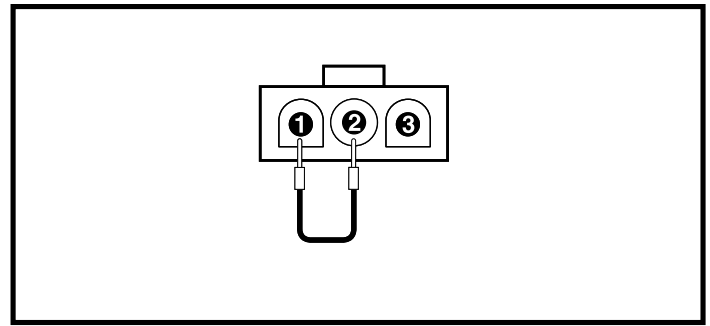
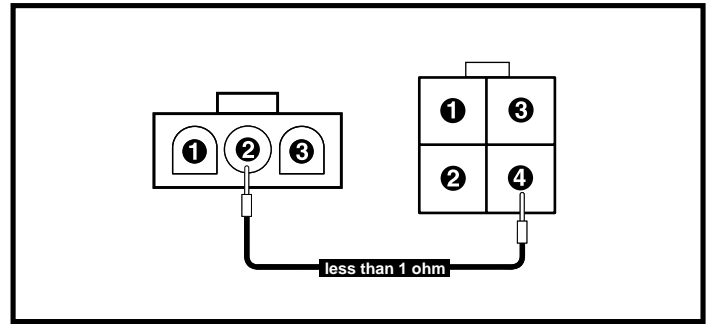

Figure 9. Connector 10a - Jumpered
Figure 10. Connectors 10a and 10b
6. Place a jumper into pin 1 and pin 2 on connector 10a, then try to operate the power chair. See figure 9.
- If the power chair runs, then replace the battery charger (9) and retest the system.
7. Unplug connector 10b from the power module (6). See diagram 3.
8. Measure resistance across pin 2 on connector 10a and pin 4 on connector 10b. See figure 10.
- If your multimeter indicates less than 1 ohm, then replace the power module (6) and retest the system.
- If your multimeter indicates an open, then replace the charger/inhibit harness (10) and retest the system.